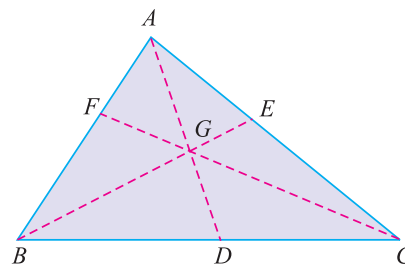

Fig. 6.2. Triangle
3. The centre of gravity of a triangle is at the point, where the three medians (a median is a line connecting the vertex and middle point of the opposite side) of the triangle meet as shown in Fig. 6.2.